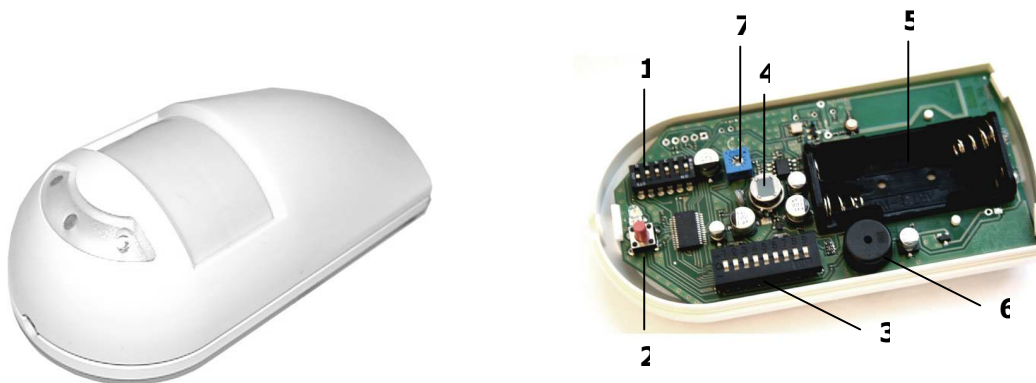

Fig. 1 – Internal view
Pls set the Configuration dip switches bank referred as –1- in Fig. 1 above.
- 1) Remove cover and, BEFORE battery insertion, set Configuration dip switches bank –1- Fig. 1 Pos. 1 to choose the preferred code simulation. For sensor versions that allow selection to fixed code emulation, the Combination for Fixed Code Dip switch bank will be at 10 position, two conditions for HT12 emulation and at 9 position, three conditions for MC145026 emulation. No Dip switches for HCS only versions.